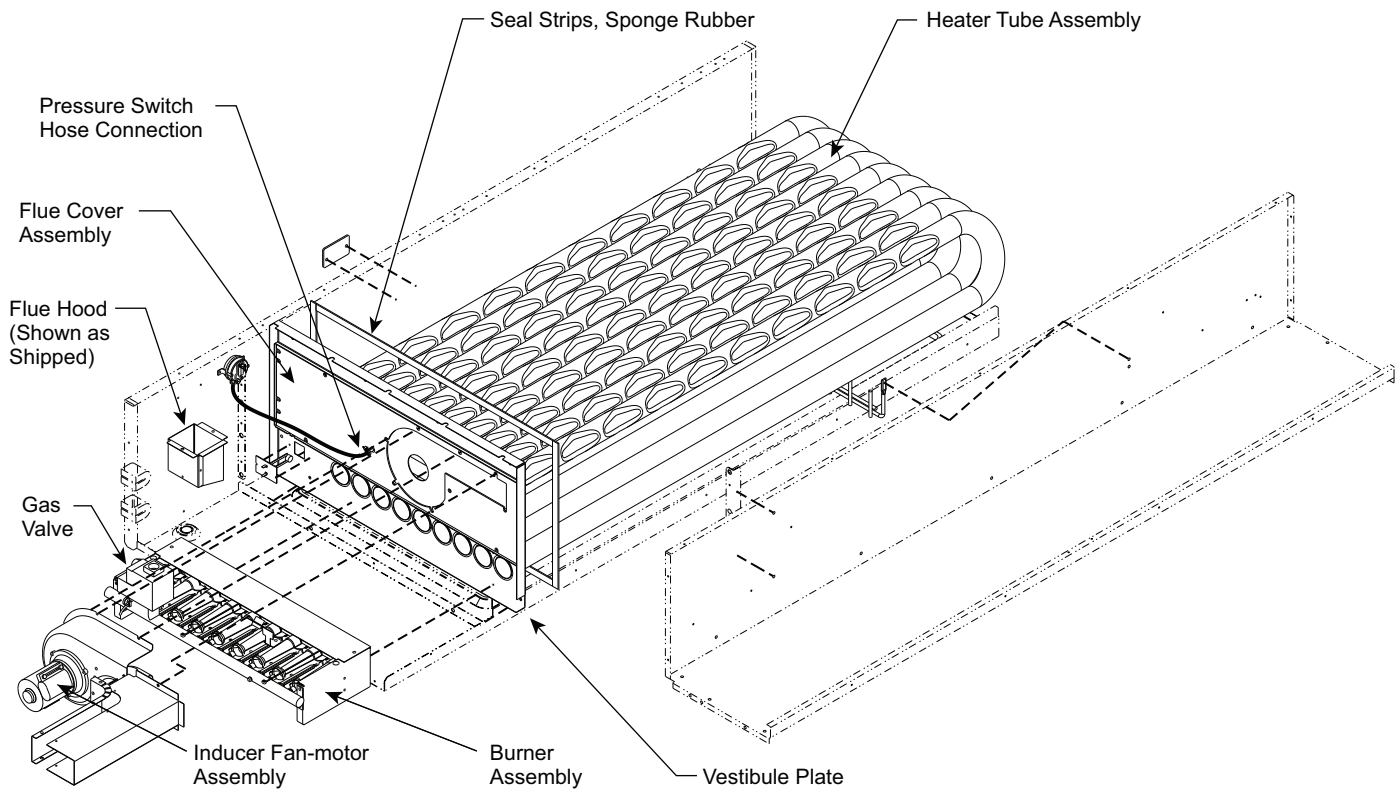

Fig. 48 — Heat Exchanger Assembly
1. Remove the combustion blower wheel and motor assembly according to directions in Combustion-Air Blower section. See Fig. 48.
2. Remove the seven screws attaching the induced-draft motor housing to the vestibule plate. (See Fig. 48.)
See Fig. 48, 50, 51, 52 and 53.
9. Remove the two screws attaching the burner rack to the vestibule plate (see Fig. 48).
10. Remove the pressure switch hose from the connection on the flue cover assembly (see Fig. 48).